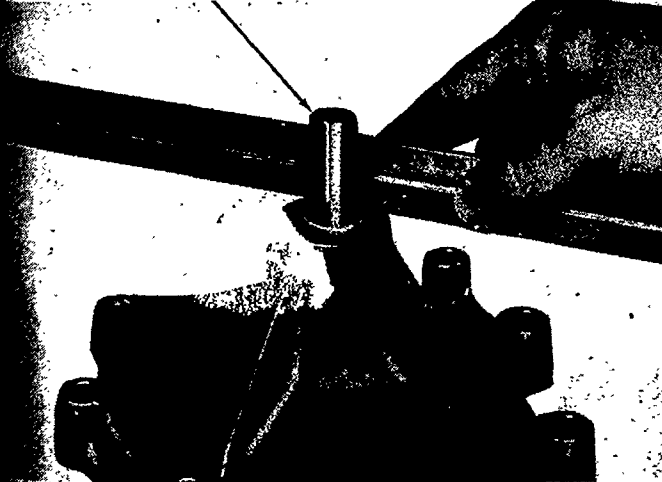

Figure 87
3. Press the bearing shaft and slinger assembly into the housing using a sleeve which passes over the shaft and rests on the bearing. Press the bearing to flush with the face of the housing, Figure 87. Use a straight edge to check the final position. Check the edge of the bearing (not the seal).